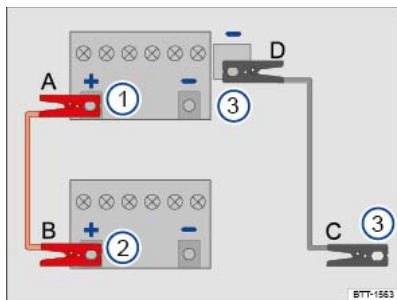
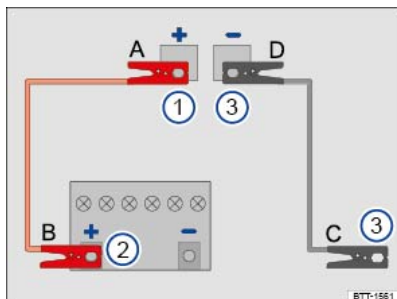

Fig. 217 Diagram for connecting the jump leads (12-volt vehicle battery in the engine compartment).
Fig. 218 Diagram showing how to connect jump leads on the vehicle providing the jump start (12-volt battery in luggage compartment).
Key for ⇒ Fig. 217 and ⇒ Fig. 218 :
The jump leads should only be connected in the order **A – B – C – D** ⇒ Fig. 217 .
- Connect one end of the **red** jump lead to the positive terminal (+) of the vehicle with the discharged 12-volt vehicle battery ⇒ Fig. 217 ① ⇒  .
- Connect the other end of the *red* jump lead to the positive terminal (+) of the vehicle battery providing assistance ⇒ *Fig. 217* ②.
- On the vehicle with the flat 12-volt battery, connect the other end of the *black* jump lead ⇒ *Fig. 217* ③ preferably to the jump lead connection point (earth connection), or otherwise to a solid metal part that is securely bolted onto the cylinder block, or to the cylinder block itself ⇒ ⚠.
The jump leads should only be connected in the order **A – B – C – D** ⇒ *Fig. 218*.
- Connect one end of the *red* jump lead to the jump lead connection point (positive terminal) (+) of the vehicle with the discharged 12-volt vehicle battery ⇒ *Fig. 218* ① ⇒ ⚠.
- Connect the other end of the *red* jump lead to the positive terminal (+) of the vehicle battery providing assistance ⇒ *Fig. 218* ②.
- On the vehicle with the 12-volt battery providing assistance, connect one end of the *black* jump lead ⇒ *Fig. 218* ③ preferably to the jump lead connection point (earth connection), or otherwise to a solid metal part that is securely bolted onto the cylinder block, or to the cylinder block itself.
- On the vehicle with the flat 12-volt battery, connect the other end of the *black* jump lead ⇒ *Fig. 218* ③ preferably to the jump lead connection point (earth connection), or otherwise to a solid metal part that is securely bolted onto the cylinder block, or to the cylinder block itself ⇒ ⚠.
- When the engine is running, the jump leads should be removed only in the order **D – C – B – A** ⇒ *Fig. 217* or ⇒ *Fig. 218*.